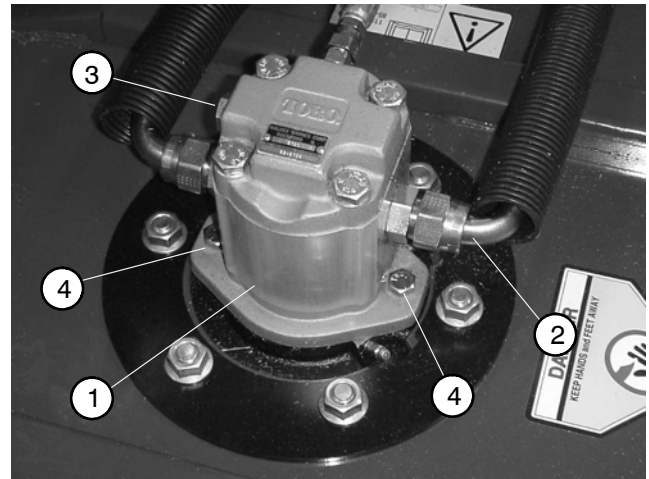

Figure 85
**Note:** Note position of hydraulic hoses when removing from the rotary motors. Proper positioning is critical when reconnecting hydraulic hoses. The inlet to the motor is opposite from the relief valve (Fig. 85).
1. Remove two cap screws that secure hydraulic motor to the cutting unit (Fig. 85). Remove hydraulic motor from deck and O-ring from top of spindle housing.